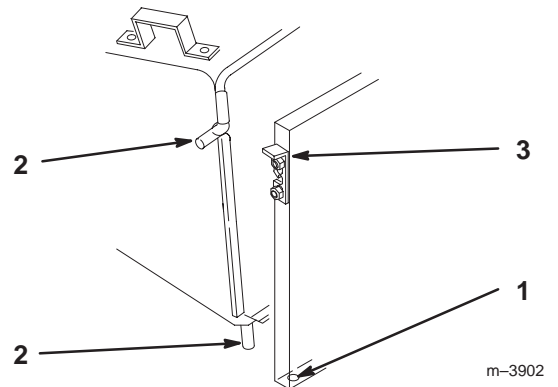

Figure 7
3. Insert lower pins of bagger frame into holes in back plate. Lift latches and slide frame side pins into latches. Lower latches to secure (Fig. 7).